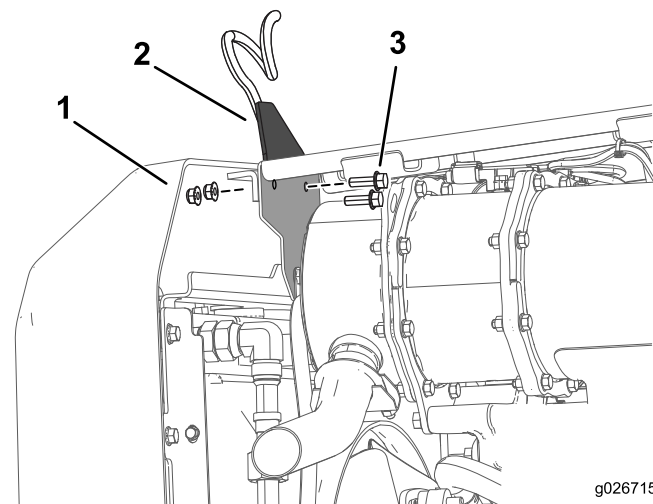

Figure 5
3. Secure the bent cable-guide bracket between the center strip and the front nose cone using 2 bolts (5/16 x 1 inch) and the 2 nuts previously removed (Figure 5).